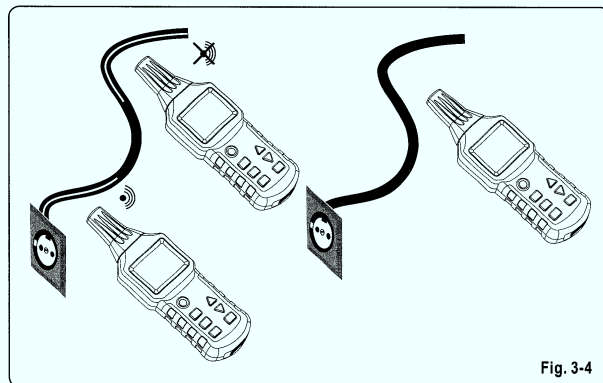

Fig. 3-4
- The measurement must be conducted according to Fig.3-4;